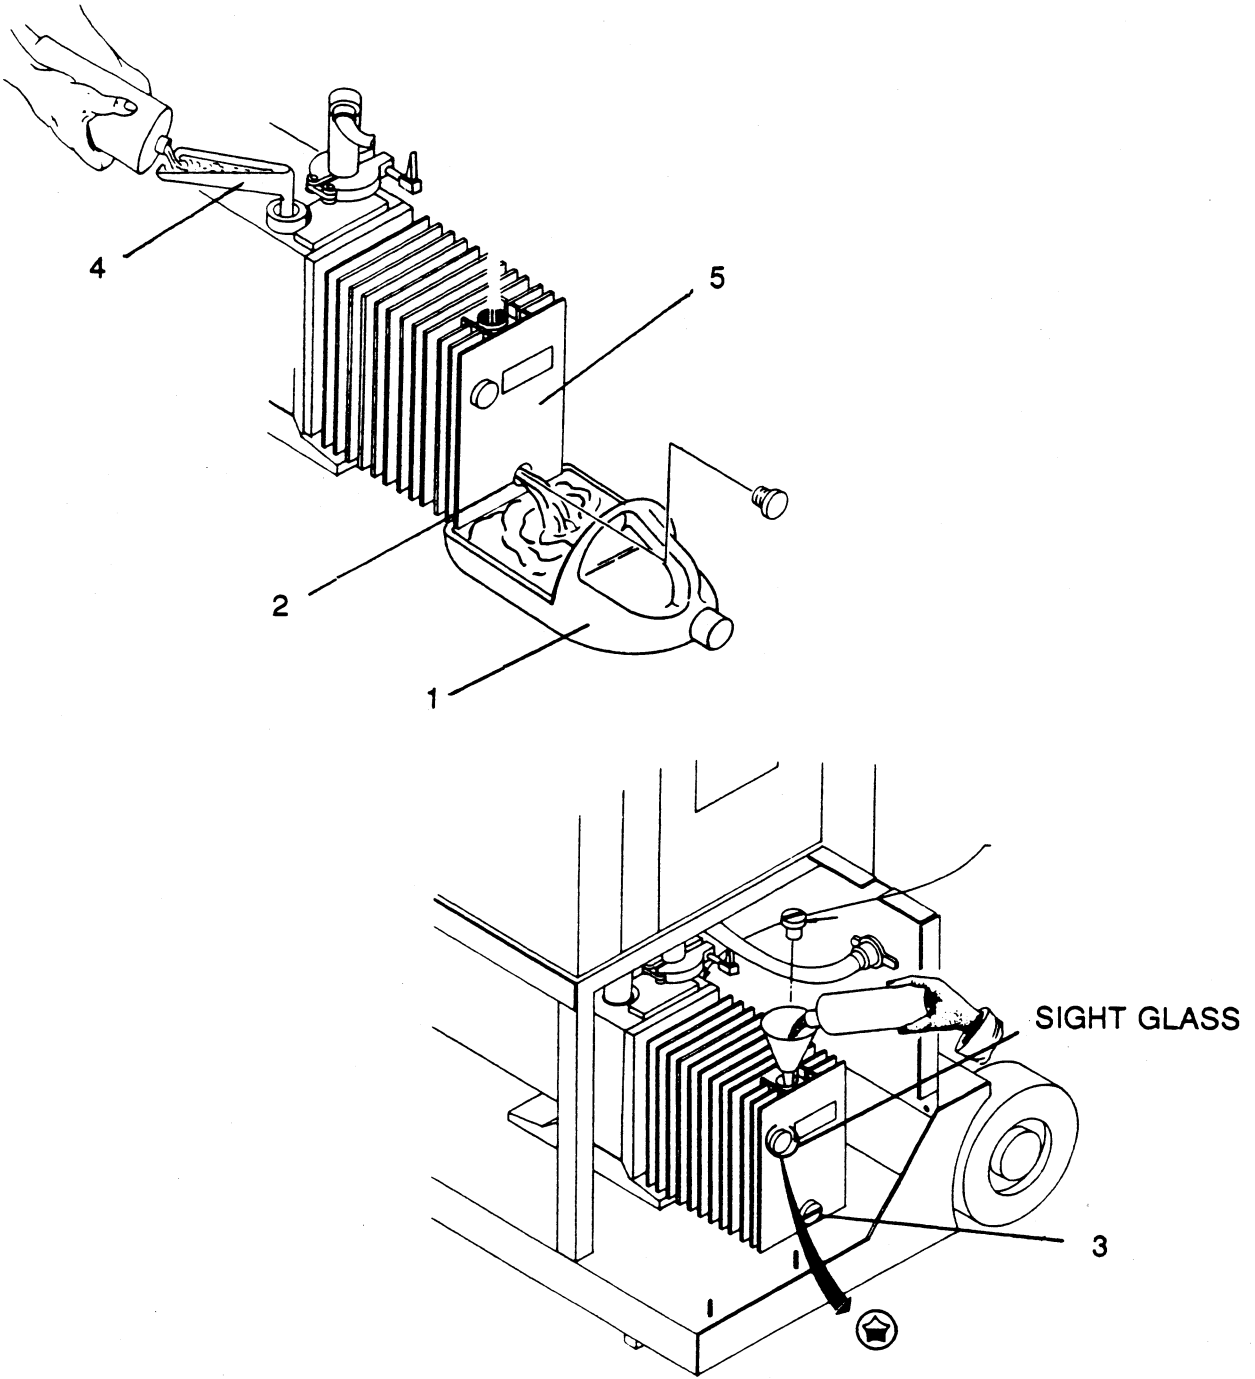

Figure 5-2. Rough Pump Flush and Oil Change.
**b) Rough pump flush and oil change (See Figure 5-2)**
- 5 Place a suitable drain pan (1, Figure 5-2) under the rough pump drain (2) and remove the drain plug (3). After the oil is drained, replace the plug.
- 6 With an offset funnel (4) in place in the pump inlet (not the front fill hole), plug in the rough pump (5) to turn it on and **SLOWLY** pour in approximately 1 cup of VARIAN pump oil, part no. 0491-K7516-302.
- 7 Unplug the rough pump to turn it off. With the drain pan (1) in place, remove the drain plug (3) and allow the pump to drain.
- 8 Replace the drain plug (3) then fill the pump through the fill hole on top of the pump.